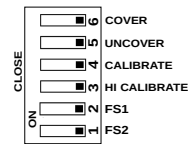

Figure 16: DIP Switch
- Ensure that all DIP switches are in OPEN position as shown in Figure 16. Make sure that STATUS LED is not blinking for error.
1. Ensure that all DIP switches are in OPEN position as shown in Figure 16. Make sure that STATUS LED is not blinking for error.